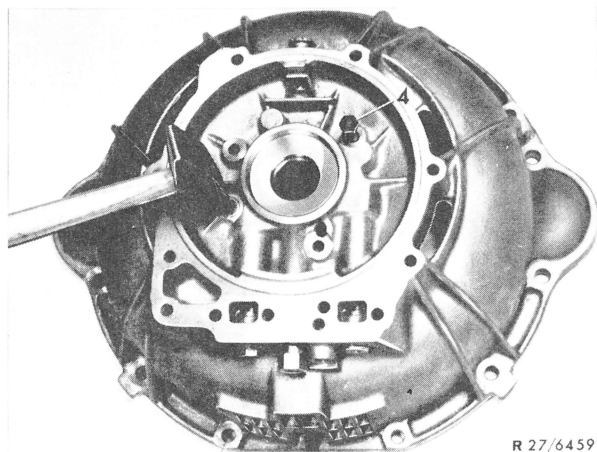

Fig. 3
3 Screw-in two hex. bolts approx. 50 mm long in opposite location (item 4, Fig. 3).
4 Loosen primary pump from transmission cover (1) by means of light blows against the two hex. bolts (4) (Fig. 3).